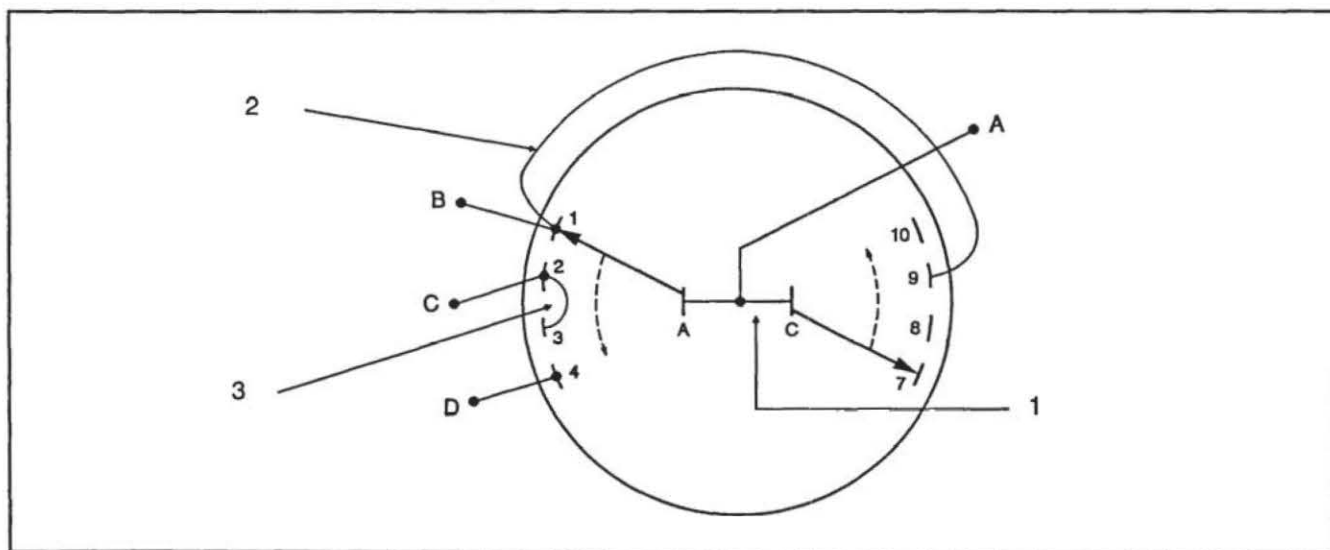

Figure 3.15 - Memory select switch (rear view) jumper connections
3. Use 18-22 gauge wire (customer supplied) to make the switch and PC40 jumper wire connections shown in Figure 3.15.